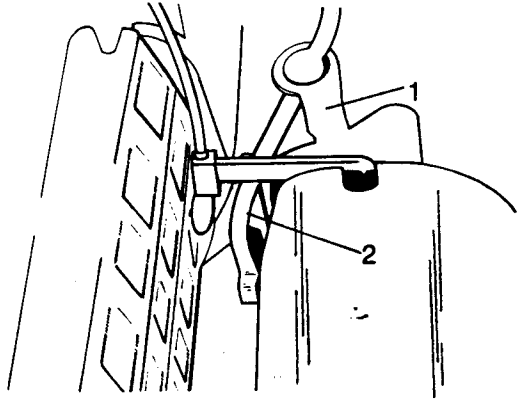

Fig H2.3
(8) Refer to Fig H2.3. Replace the link (2) and spring that join the lever of the transfer box to the high and low gear selector.
- (9) Refit the transfer box gear lever (1) into the bracket fixed to the clutch housing.
- (10) Replace the fixings of the rear transfer box mountings.
- (11) Refit the transmission brake coupling mechanism.
- (12) Replace the speedometer cable.
- (13) Refit the front and rear propeller shafts (see Sub-sub-section H4.3).
- (14) Fill the transfer box with the correct grade of oil (see Sub-sub-section H2.5).